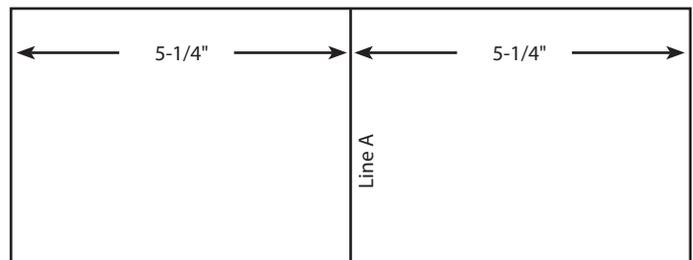

Figure 1
1. Using a pencil, draw Line A down the center of one balsa wood sheet (Figure 1).